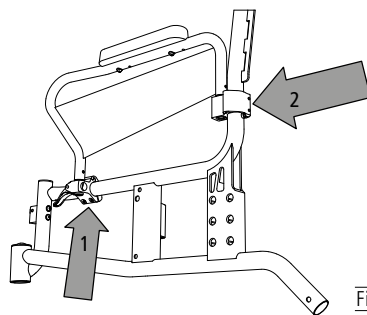

Fig. 11
2. Loosen the two socket head screws in the calf pad holder (1, Fig. 11) and the rear (2, Fig. 11) side panel clamp.